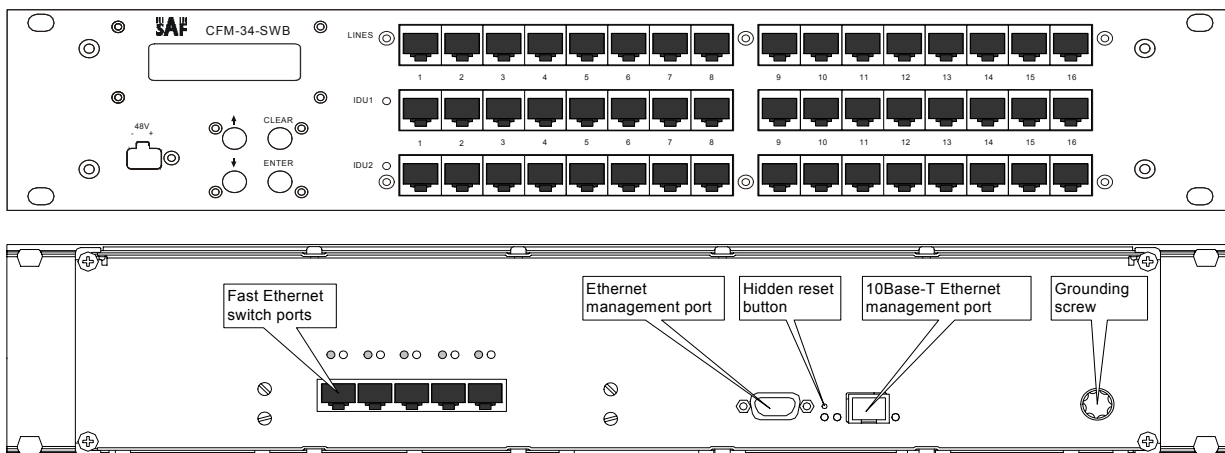

Figure 2. The CFM-34-SWB IDU with RJ-45 E1 port connectors (front and rear panel)
- With RJ-45 traffic port connectors (Figure 2)